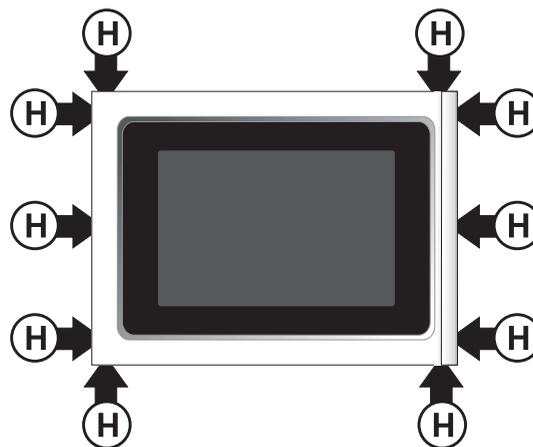

Figure 12
3.3.1. Remove the three (3) screws, each side, fixing the outer door assembly (glass panel and handle). Remove also the four (4) screws located on top (2) and under (2) outer door assembly (see H, Figure 12 (10 screws total)).
3.3.14. Fix the outer door assembly using the ten (10) screws removed on step 3.3.1 (See H, Figure 12).